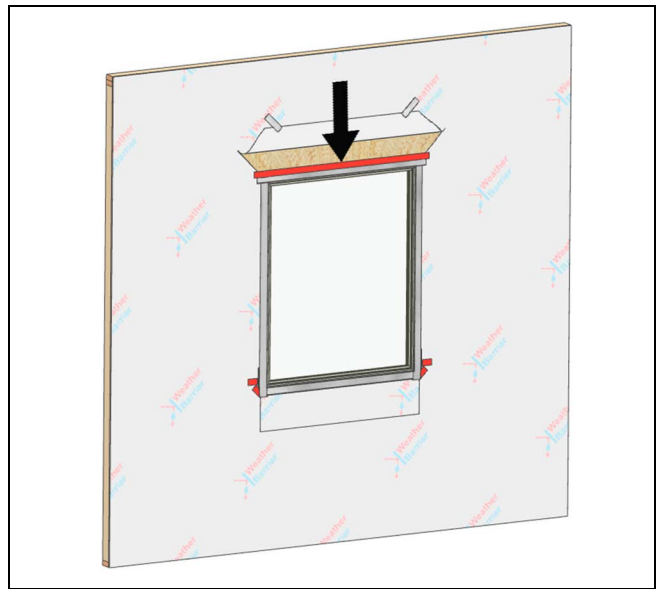

Figure 24
4. Tape the top edge of the head jamb flashing with seam seal tape. See Figure 24.